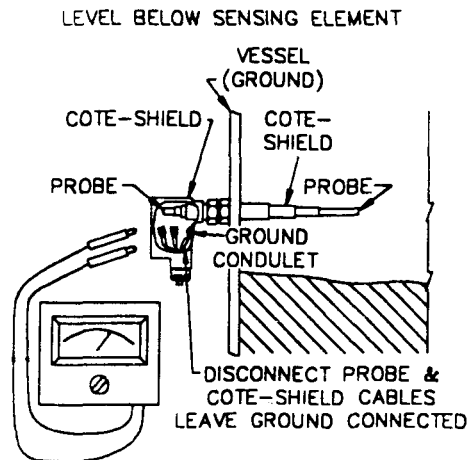

Figure 5-5
- A. Disconnect the measuring cable from the sensing element terminals. See Figure 5-5.